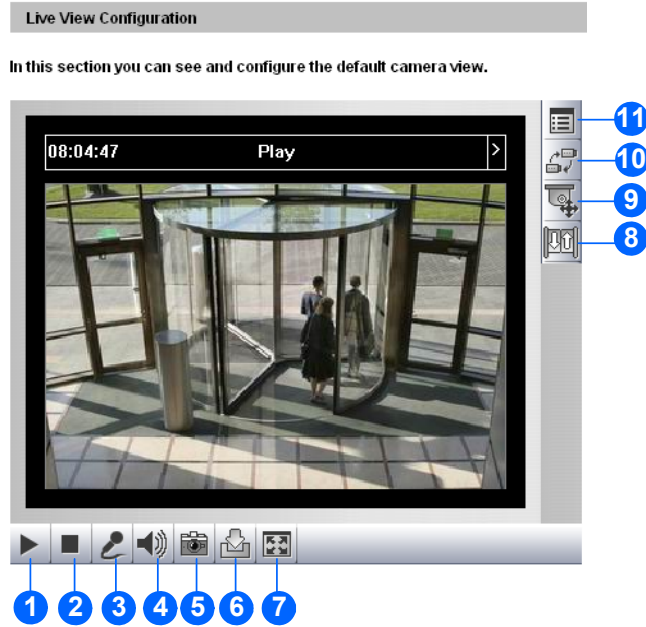

Figure 3-3
1. Click the **Snapshot** button (No. 5, Figure 3-3). The Save As dialog box appears.
1. Click the **File Save** button (No. 6, Figure 3-3). The **Save As** dialog box appears.
4. To stop recording, click the **Stop** button (No. 2, Figure 3-3).
- Click the **Full Screen** button (No. 7, Figure 3-3). Right-click the full screen to have the options of **PIP** and **PAP**.
To configure this function, click the **Show System Menu** button (No. 11, Figure 3-3), and select **Alarm Notify**. This dialog box appears.
You can enable the microphone and speaker for two-way audio communication and adjust the audio volume. To change audio configuration, click the **Show System Menu** button (No. 11, Figure 3-3) and select **Video and Audio Configuration**.
You can upgrade firmware over the Internet. Click the **Show System Menu** button (No. 11, Figure 3-3) and select **Remote Config**. The Remote Config dialog box will appear.
To display the camera name on the image, click the **Show System Menu** button (No. 11, Figure 3-3) and select **Show Camera Name**.
To enhance the image quality of live video, click the **Show System Menu** button (No. 11, Figure 3-3) and select **Image Enhance**. This dialog box appears.